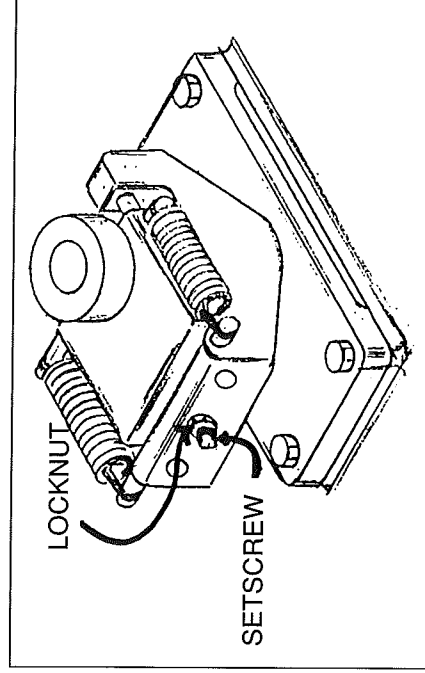

Figure 6
3. Drive Slide adjustment is to stop the crank plate in the center when releasing the rounding lever, See Fig.6. The crank plate must be removed to make this adjustment. (To remove crankplate, see instructions on page 9, Item 7). Loosen lock nut and turn set screw counter clockwise to allow drive slide to come back to center. Tighten lock nut. If drive slide is moving beyond center, loosen lock nut, turn set screw clockwise pushing drive slide to center. Tighten lock nut.